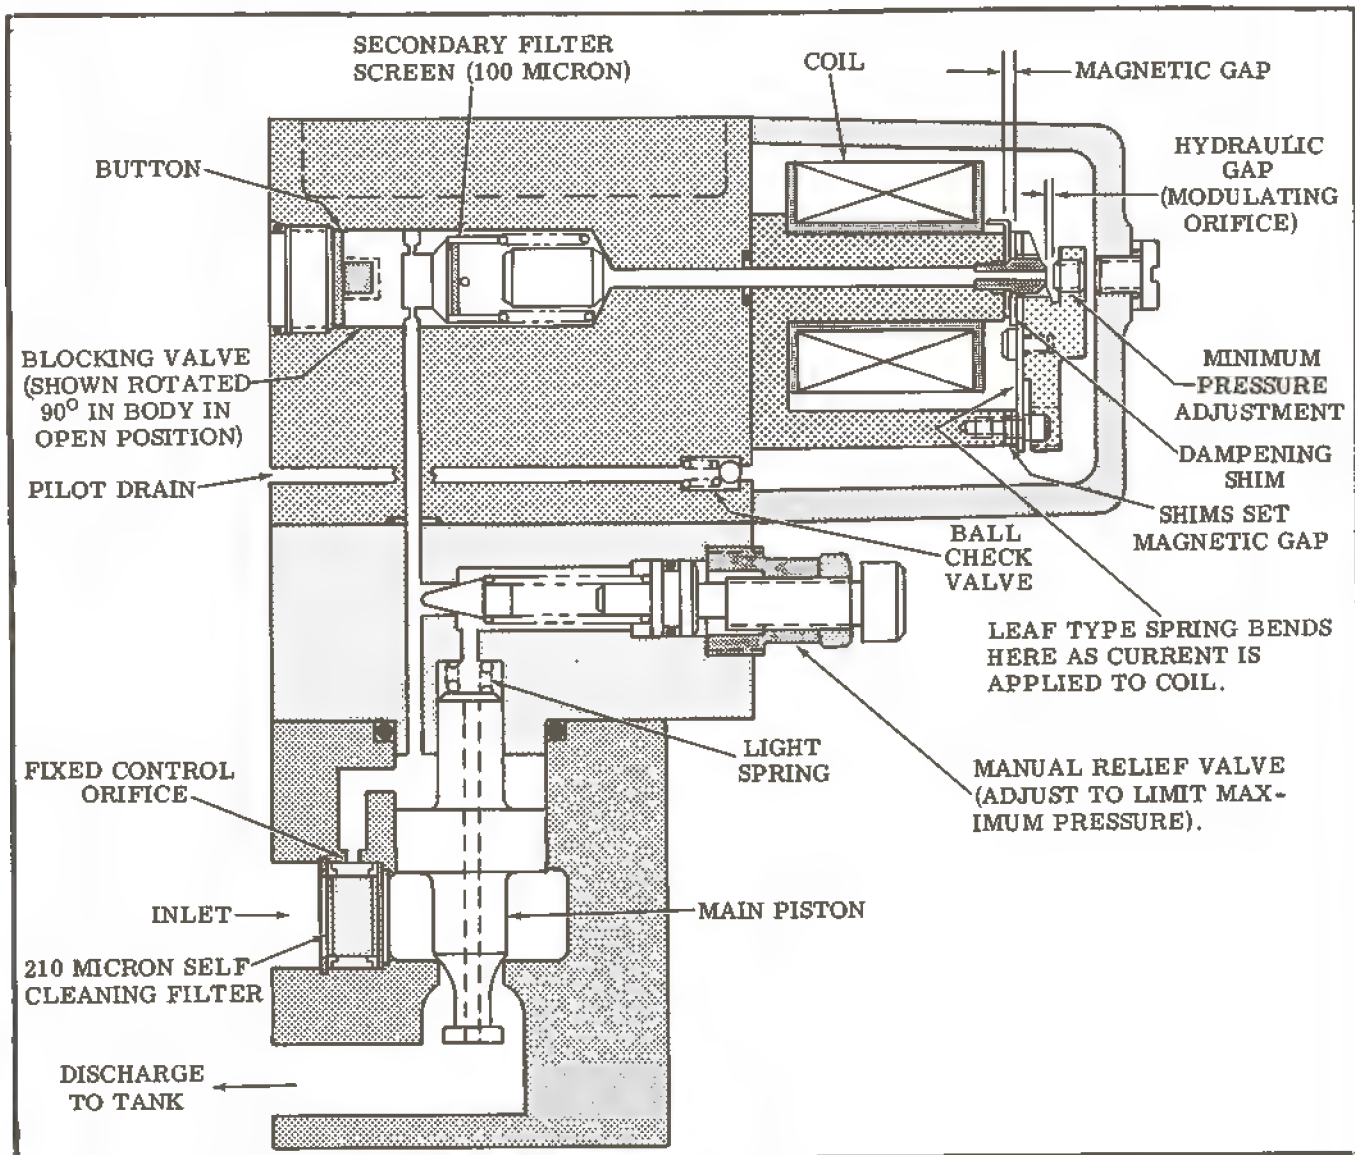

Figure 2. Complete Electrically Modulated Relief Valve Functional Diagram.
1. **FLAPPER, NOZZLE AND COIL:** The flapper nozzle is analogous to a poppet/seat with a spring type of control in that it is a force balance system. When current is applied to the coil, the resultant magnetic force pulls the flapper toward the pole piece. This results in a smaller hydraulic gap (orifice) and a build up of pressure at the upstream side of the valve. This increasing pressure produces a force which opposes the magnetic force and a balance is achieved with pressure being approximately proportional to current. Refer to figure 2.
6. **SECONDARY FILTER SCREEN:** A 100 micron screen located close to the nozzle helps prevent plugging of the flapper orifice. To change or clean this screen, remove the blocking valve spool. The screen is located in the end of the spool. See figure 2.
7. **BALL CHECK VALVE:** A ball check valve is used to keep the pilot valve cover full of oil during shut down. See figure 2.
Refer to figure 2 during the following discussion.